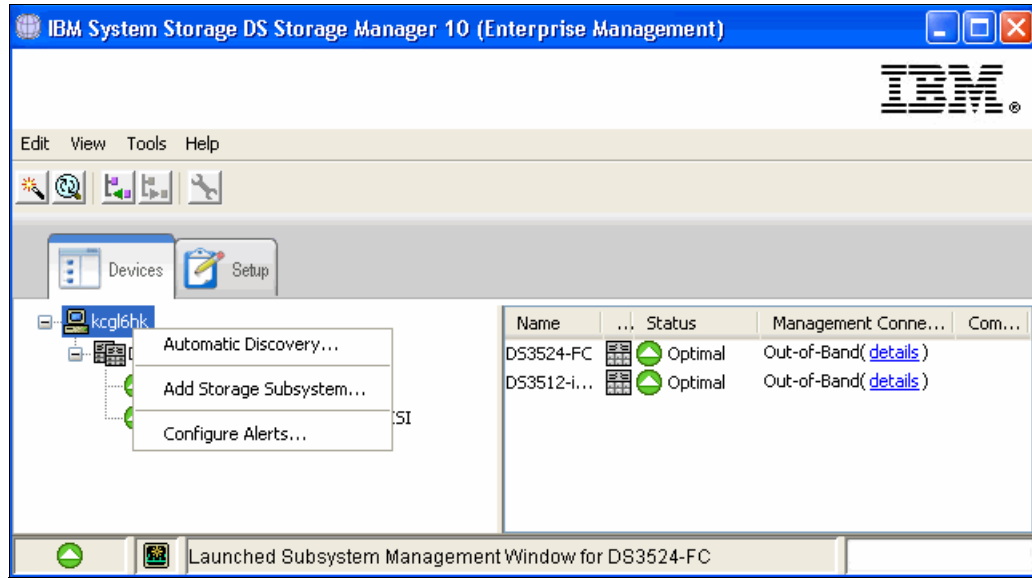

Figure 6-10 Configure Alerts for all systems
- To configure alerts for all storage systems listed in the Enterprise Management window, right-click your local management system in the Enterprise Management window (at the top of the tree) and select **Configure Alerts**, as shown in Figure 6-10.